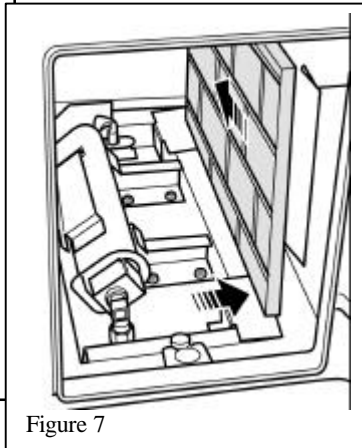

Figure 7
5. Fit the edge of the rear ceramic wall behind the side wall. The rear ceramic wall will rest on the base of the casting (see figure 7)